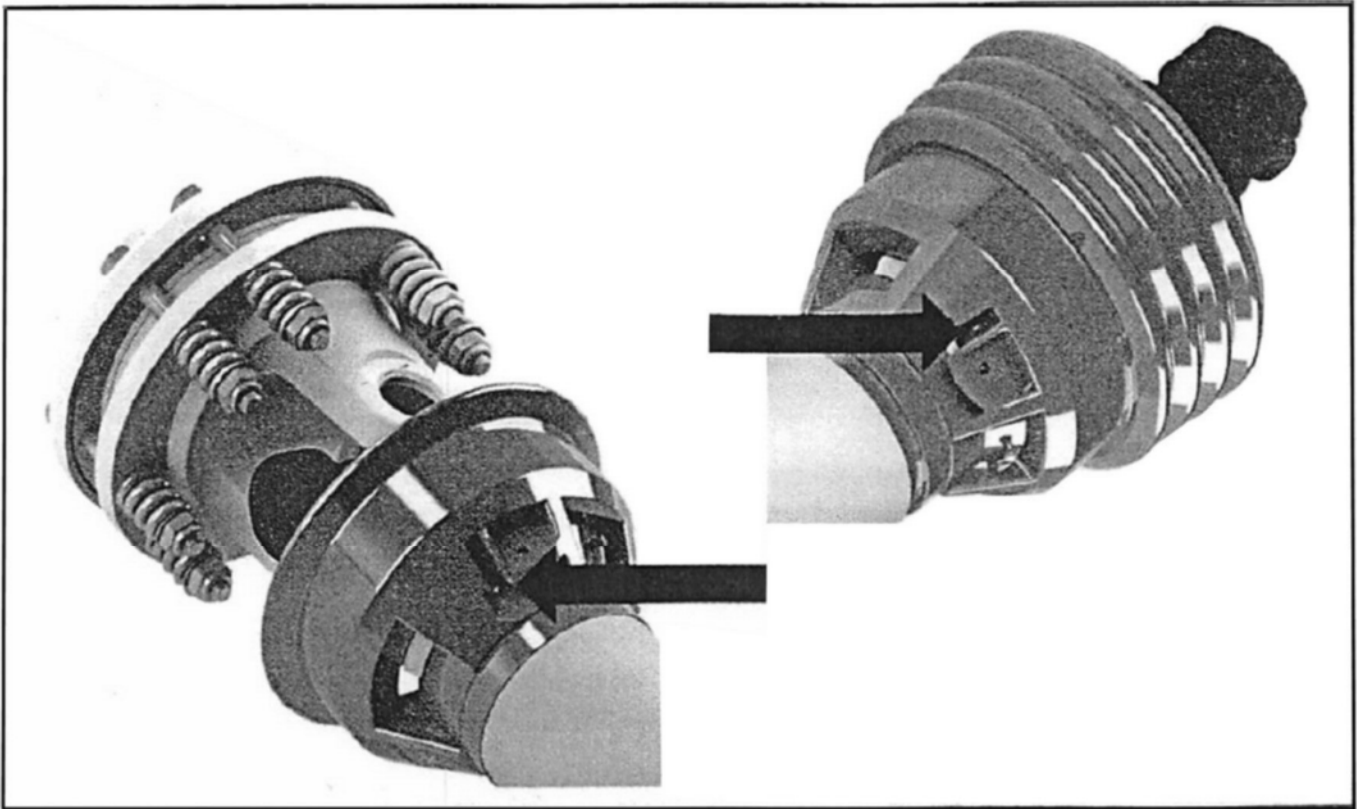
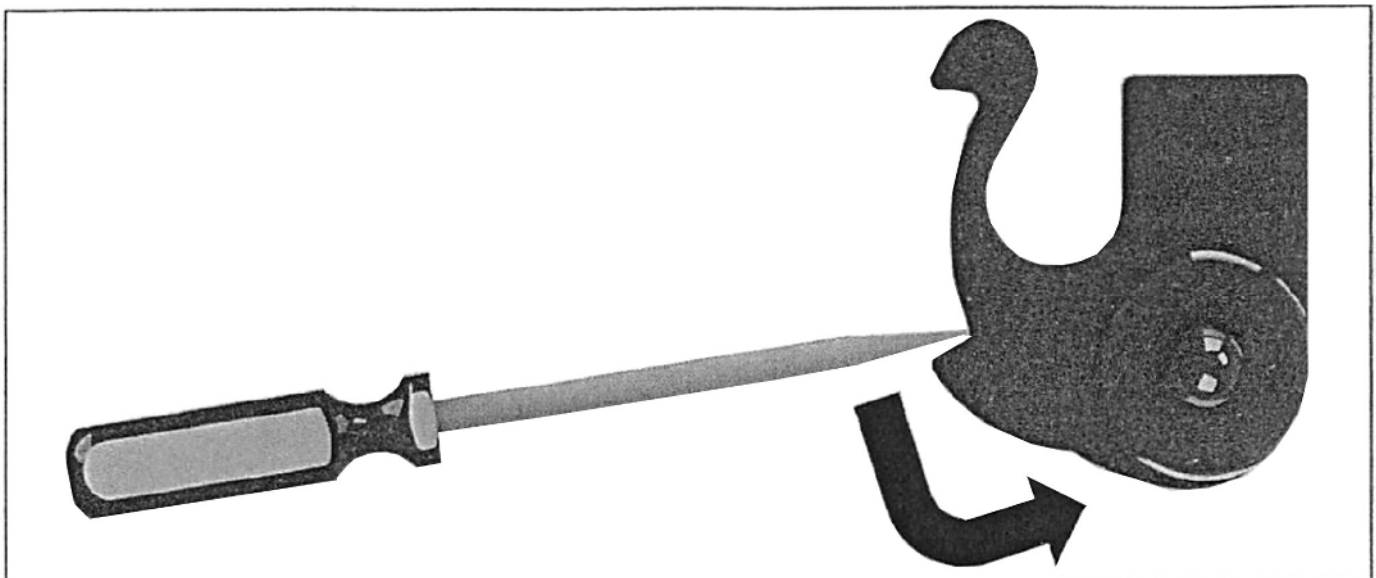

Figure 11 (Step 2)
Figure 12 (Step 2)
- 2). Locate the bearing clip at either end of the driveline. Insert a flathead screw driver into the groove indicated in (Figure 11), below. While pressing inward on the arm of the bearing clip, rotate the bearing clip in the counter clock wise direction in (Figure 12).